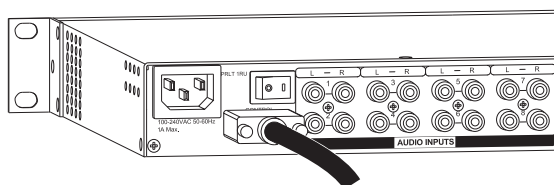

FIG. 6 Attach null modem serial cable to CONTROL port
2. Plug one end of the null modem serial cable into the CONTROL (RS-232 / DB-9) port on the enclosure (FIG. 6).